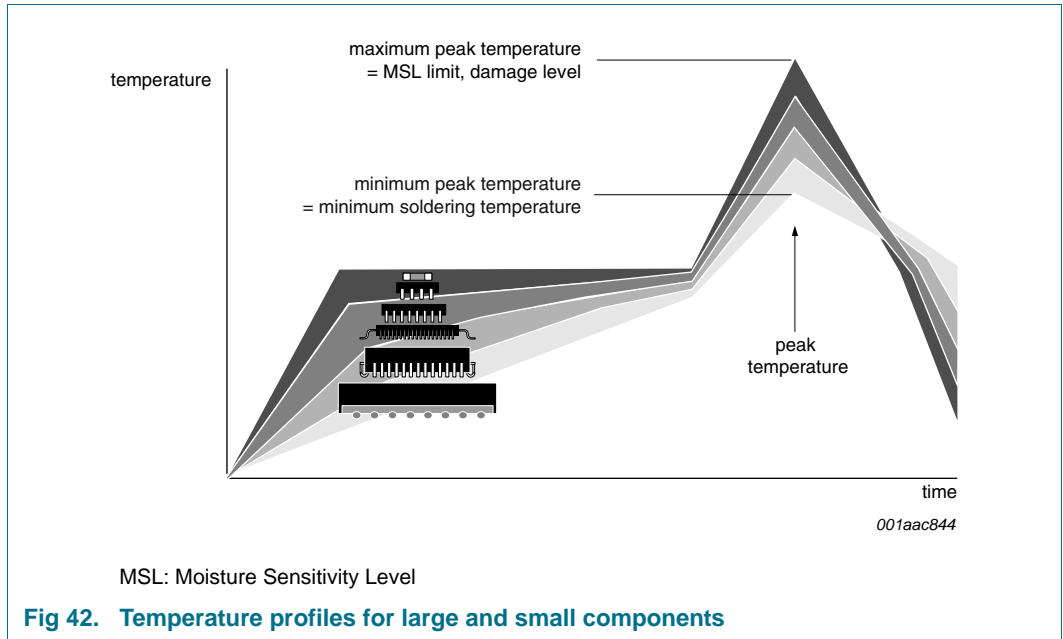

Fig 42. Temperature profiles for large and small components
- Lead-free versus SnPb soldering; note that a lead-free reflow process usually leads to higher minimum peak temperatures (see Figure 42) than a SnPb process, thus reducing the process window
Studies have shown that small packages reach higher temperatures during reflow soldering, see Figure 42.